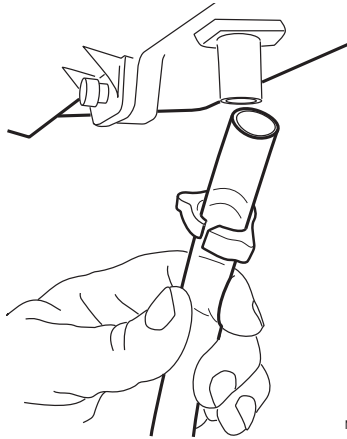

Fig. 7. Installing the drain tubing.
- d. Direct the hose outlet into the floor drain. Secure the hose to reduce the risk of water pooling or splashing as it drains from the humidifier. See Fig. 7.